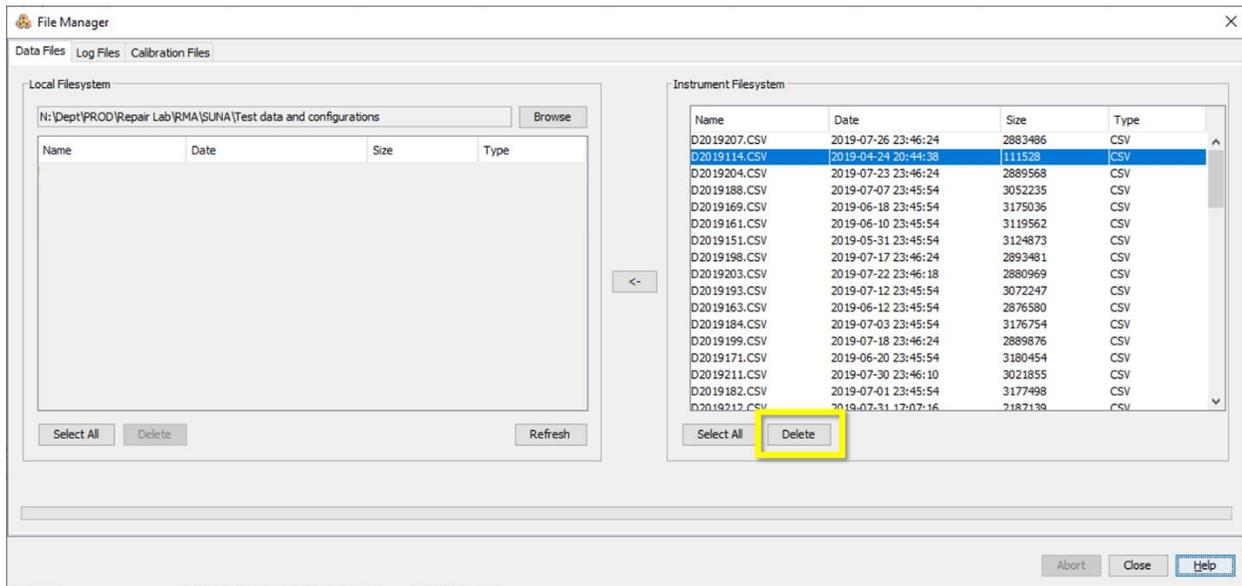

Figure 6. Select the .CSV Data File with your Cursor and then Select Delete
3. In the **File Manager** pop-up window, delete the files that are from two quarters ago in the **Instrument Filesystem** section/box. Select the .CSV data file with your cursor, and then select **Delete (Figure 6)**. Select and delete 10 files at a time and repeat until all files are deleted. This prevents the SUNA from acting up due to its small microprocessor.